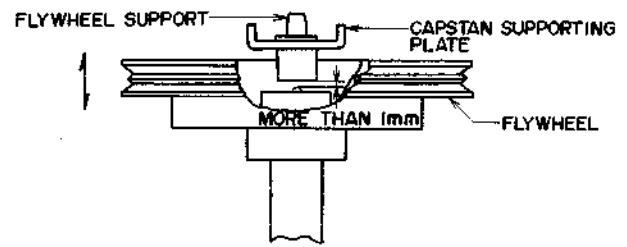

Fig. 6
5. FLYWHEEL VERTICAL LOOSE PLAY CONFIRMATION (Refer to Fig. 6)
Confirm that the gap between the flywheel and flywheel support is more than 1 mm as shown in Fig. 6.